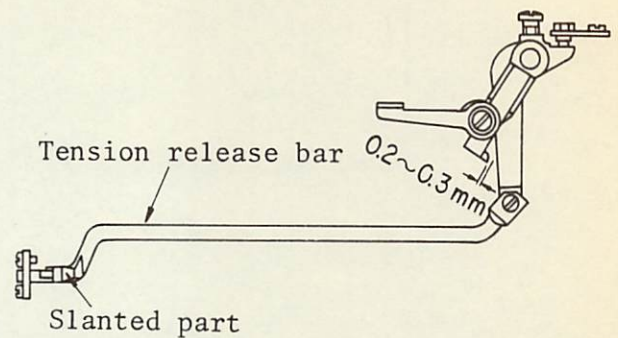

Fig.11
- \* The tension release latch at rotating time is separated from the outer rim of the feed cam by  $0.2 \sim 0.3 \text{ mm}$  ( $1/128''$ ). (Fig.11)